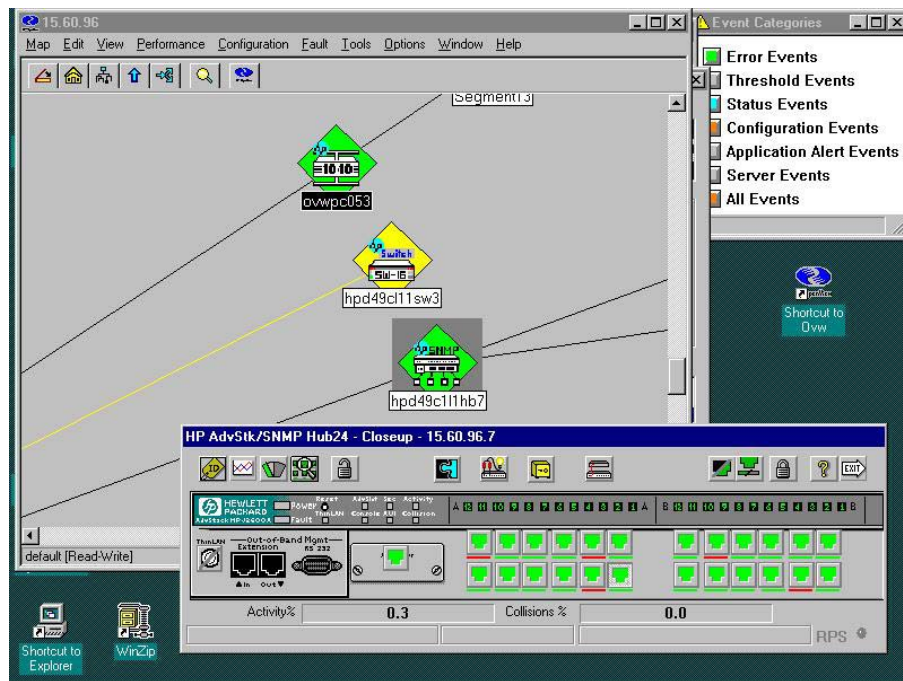

Figure 5-29. The Tootools Device View action brings up a realistic representation of the hub to permit management.
- **Device View** is available on NNM-NT/WINDOWS 2000 single system installations. It displays a realistic, graphical view of the networking device on the console with options for configuration and traffic monitoring. (Figure 5-29)